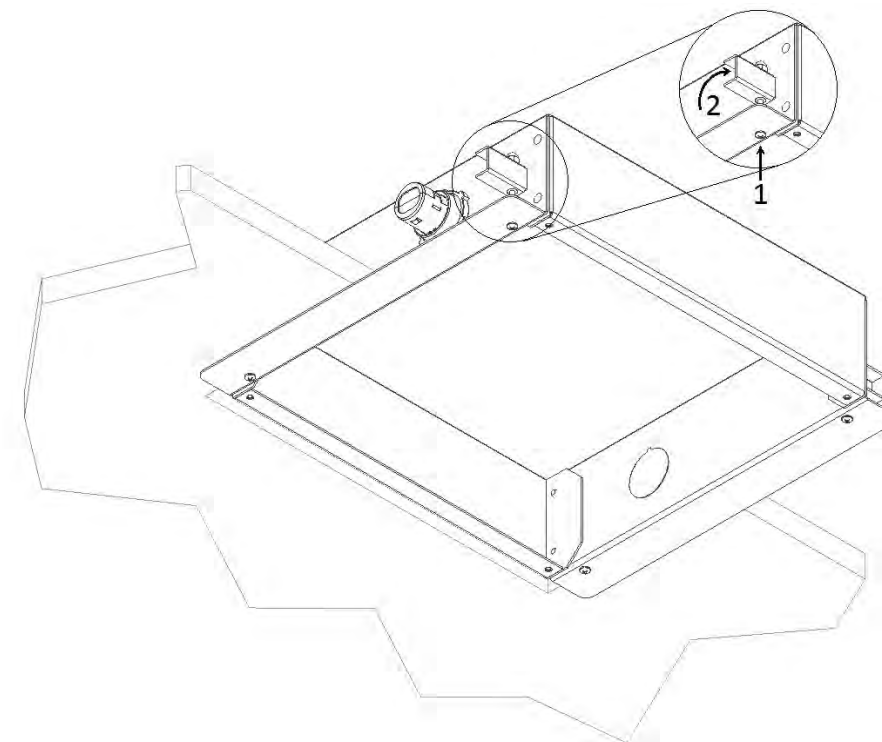

Figure 3 - Back Box Mounting
Step 7 – Insert the Ethernet cable through the conduit connector previously installed in the enclosure. Insert the box into the opening in the ceiling/wall and using either a hand held screw driver or an electric screw driver set to the lowest torque setting, rotate the screws located at the four corners (#1 in Figure 3). Rotating the screws will cause the dogleg clip to rotate into position (#2 in Figure 3) and travel along the length of the screw, tightening the clip against the drywall. Caution, do not over tighten the screws as it may damage the flange of the enclosure. See OSHPD approved drawing where applicable.
Step 8 – Once the assembly has been installed in the wall or ceiling, run the Ethernet cable into the enclosure through the conduit connector located on the side of the backbox. Clamp the firestop grommet around the cable far enough to allow attachment to the access point (8" - 10"). Insert the grommet into the conduit fitting (Figures 3 and 4)